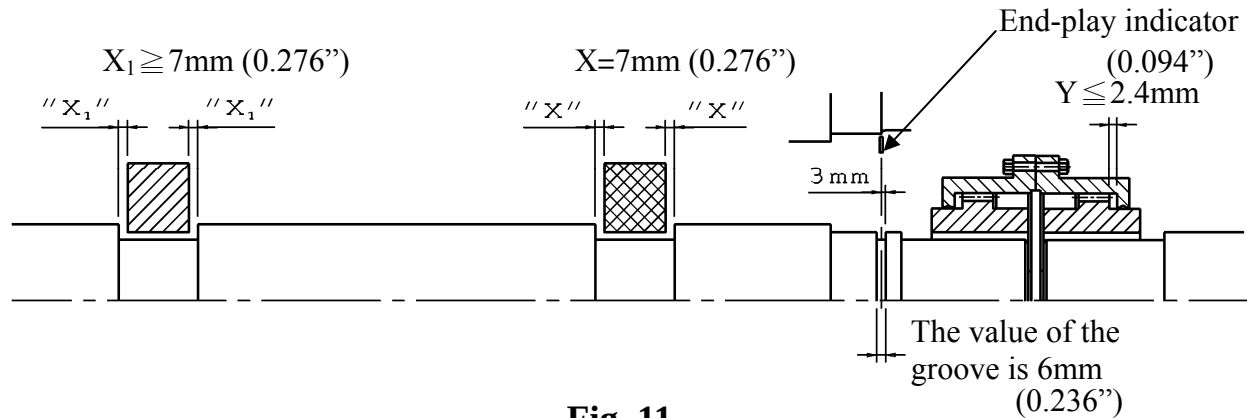

Fig. 11
- (b) Unless otherwise specified, the designed end-play value X of the groove for TECO-Westinghouse motors in general is within 7mm (0.276") as illustrated in Fig. 11. In essence, the end-play indicator is adjusted to point at the center of the groove or the drive-end shaft shoulder; thus X equals to $7 \pm 1\text{mm}$ ($0.276'' \pm 0.039''$) or so, and the end-play value (Y) of the couplings should equal or be smaller than 2.4mm (0.094").